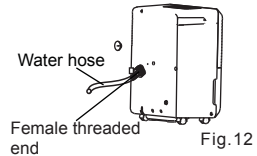

Fig.12
- Reinsert the pump drain hose into the pump drain hose outlet (See Fig.12), then lead the water hose to the floor drain or a suitable drainage facility.